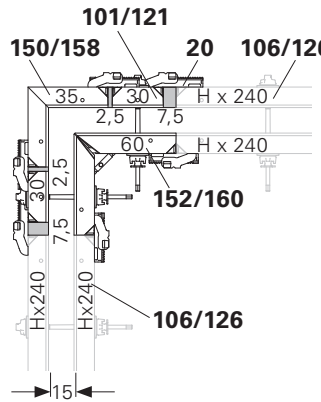

Fig. D2.01
- Wall thickness 15: Fig. D2.01 + D1.06a/c + D2.06b/d